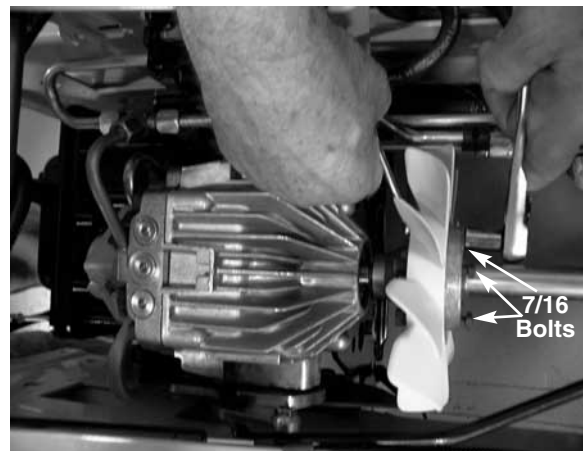

FIGURE 10.
9. Tighten the hex bolts and shoulder nuts securing the pump adapter assembly, using a 7/16 wrench and a 7/16 socket. See figure 10.